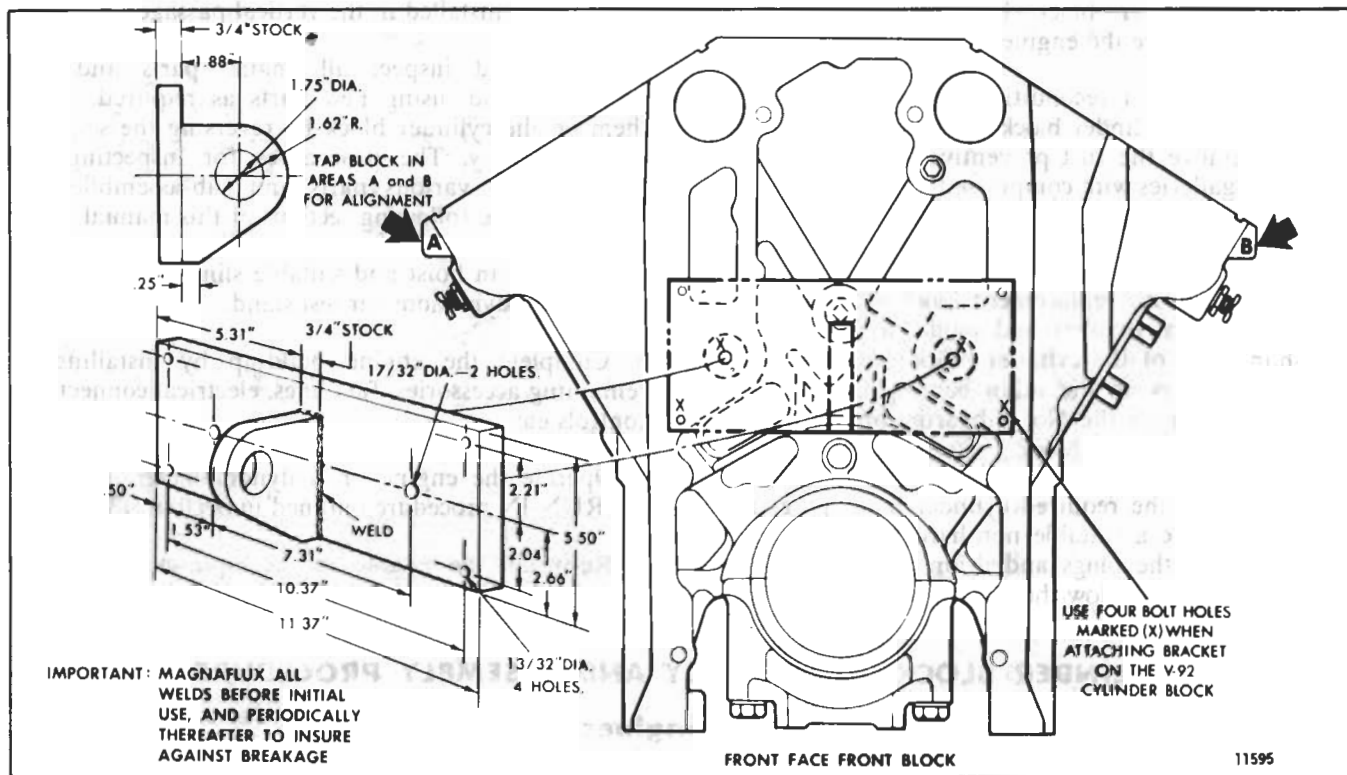

Fig. 7 - Details of Cylinder Block Lifting Bracket
**CAUTION:** NEVER use eye bolts or any other commonly purchased hardware to lift the cylinder block. Due to the weight of the blocks, it is important that the lifting brackets are constructed as shown in Fig. 7 and that all weld joints are magnafluxed prior to and periodically after initial use.
3. Attach a suitable lifting bracket (Fig. 7) to the end of the front cylinder block with two 1/2"-13 x 2" bolts and two 3/8"-16 x 2" bolts.
5. Attach a suitable lifting bracket (Fig. 7) to the front end of the front cylinder block with two 1/2"-13 x 2" bolts and two 3/8"-16 x 2" bolts.
**NOTE:** If it becomes necessary to shift the front cylinder block when installing the attaching bolts, use a soft hammer and tap at points "A" and "B" shown in Fig. 7.
**NOTE:** If it is necessary to shift the front cylinder block when checking the alignment, tap at points "A" and "B" (Fig. 7) with a soft hammer to align the blocks.